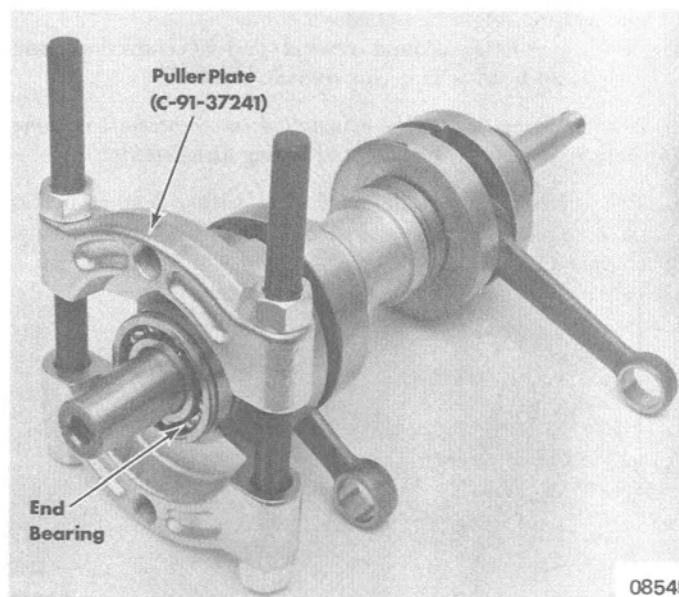

Figure 15. Bearing Removal
1. Install Puller Plate (C-91-37241) between inner and outer end bearings. (Figure 15)